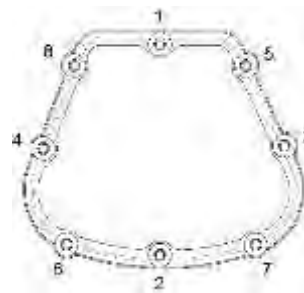

Figure 40
- T. Install the silicone rocker box cover gasket (Figure 18) and rocker box cover with screws on each rocker box. Torque the rocker cover screws using the proper torque sequence (Figure 40). For silicone gaskets, torque the screws in two steps, first to 20-25 in.-lb. (2.6-2.8 Nm) and then 35 in.-lb. (4.0 Nm), following the torque sequence for each step. For cork gaskets, torque the screws to 20-25 in.-lb. (2.6-2.8 Nm) and then 50 in.-lb. (5.6 Nm).